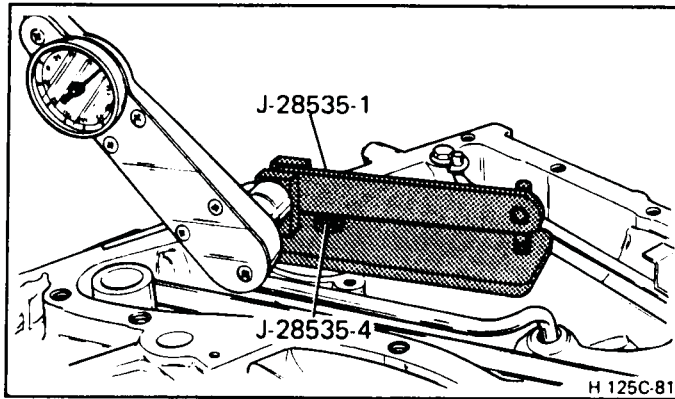

Figure 7 Checking for Proper Apply Pin
1. Bolts (141) and (142)
2. Brackets (140) and retainers (143)
3. Servo cover (137) and gasket (136)
5. "E" ring (135) from pin (129)
6. Pin (129) from piston (133)
**📏 Measure (Figures 7 and 8)**